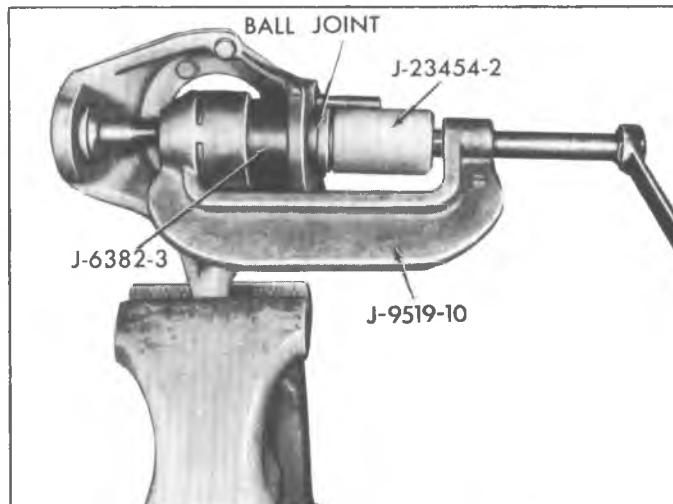

Fig. 66—Installing Upper Ball Joint
2. Install the upper ball joint into the knuckle. Press the stud into the knuckle until properly seated using tools J-9519-10, J-23454-2, and J-6382-3 or equivalent as shown in Figure 66.